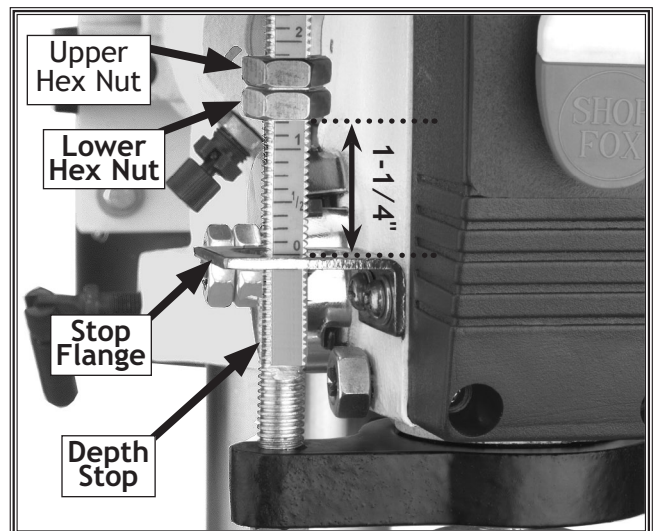

Figure 38. Depth stop set for $1\frac{1}{4}$ " drilling depth.
2. Loosen the hex nuts shown on the depth stop and align the lower nut to the $1\frac{1}{4}$ " mark on the depth stop rod (see **Figure 38**).